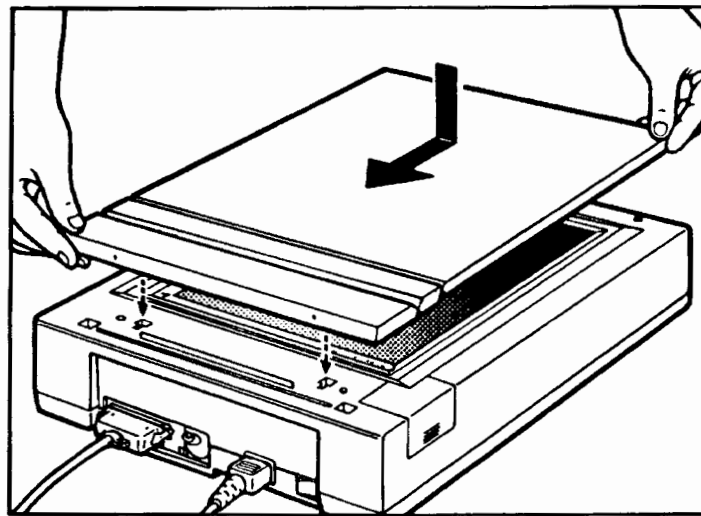

Figure D-22. Replacing the Copyboard Cover
4. Replace the copyboard cover. See figure D-22.